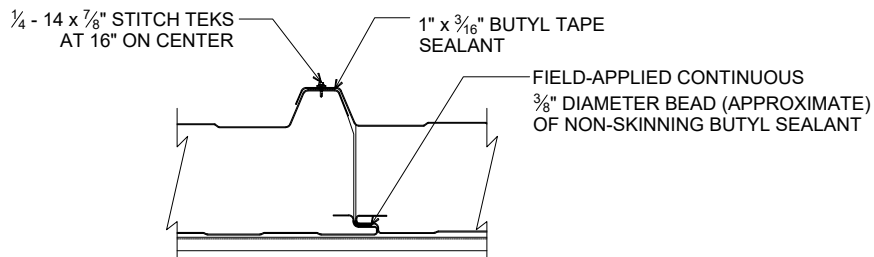

FIGURE 7
- 12.12 AFTER THE MAIN FASTENERS ARE IN PLACE THE OVERLAPPING RIB SHOULD BE FASTENED DOWN WITH #14 x 7/8" SELF-DRILLING STITCH TEK LAP SCREWS, FINISHED TO MATCH PANEL (SEE FIGURE 7, BELOW).